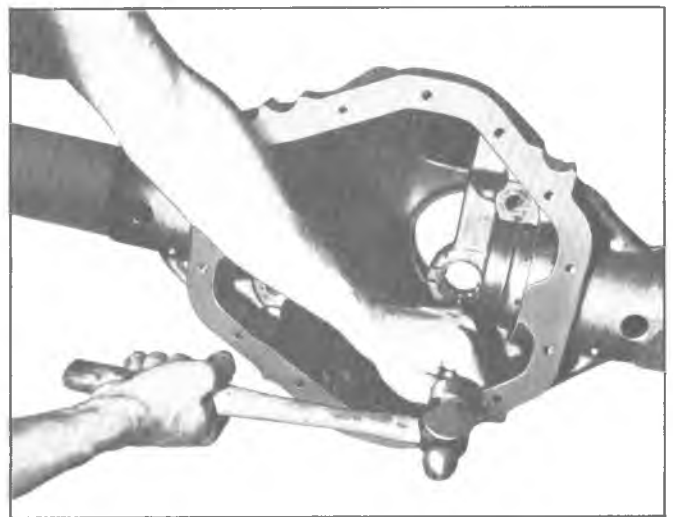

Fig. 12E—Removing Straddle Bearing
9. Drive the pinion straddle bearing from the carrier housing, using a drift as shown in figure 12E.